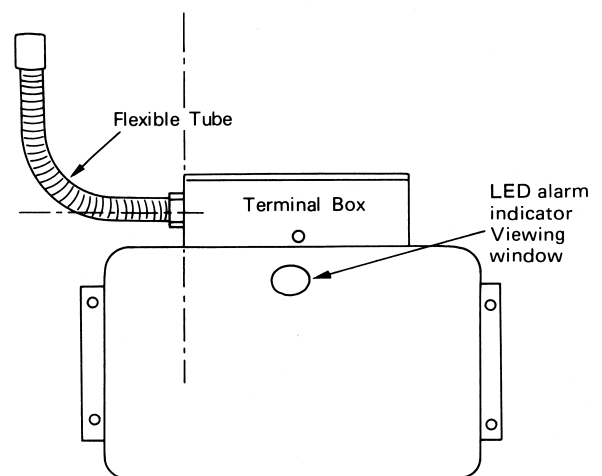

Fig. 3
6. Wiring to the terminal box should be connected to terminals L and C. A 200 mm minimum length of flexible tubing should be used. See Fig. 3.